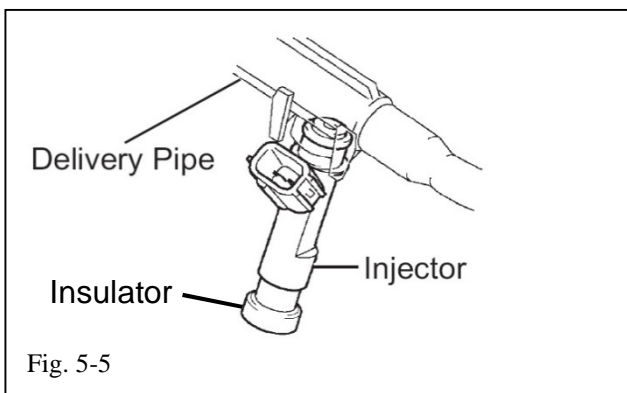

Fig. 5-5
- (d) Pull the 6 injectors out of the delivery pipe (Fig. 5-5). Discard the injectors as they will be replaced with new higher flow injectors. The old injectors should be saved for the customer.